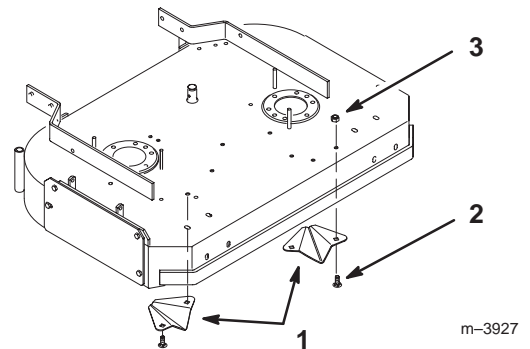

Figure 6
3. Place the kickers inside the mower over drilled holes and install each kicker with 2 bolts (5/16 x 5/8 inch) through from the bottom of the mower, and 2 flange nuts (5/16 inch) (Fig. 6).